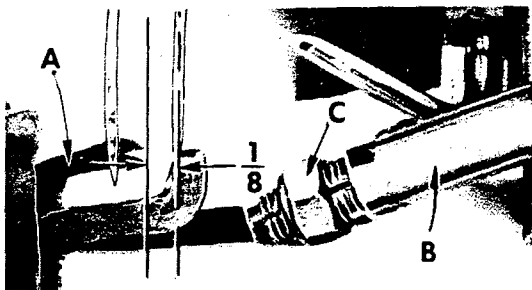

Fig. 4
Insert the lower spreader (A, Fig. 4) into bar (B). With lower spreader at left end of its stroke, set spreader point $\frac{1}{8}$ inch from centerline of right needle (Fig. 4) using gauge No. 21225- $\frac{1}{8}$. Do not have lower spreader deflecting needle. Do not lock nut (C) because the spreader point will have to be set to the needle scarf after the rear needle guard has been assembled and positioned. (See paragraph under "Final Setting of Lower Spreader").
is obtained by rocking the spreader forward or backward around its shank. Recheck the 1/8 inch spreader gauge setting and tighten nut (C, Fig. 4).